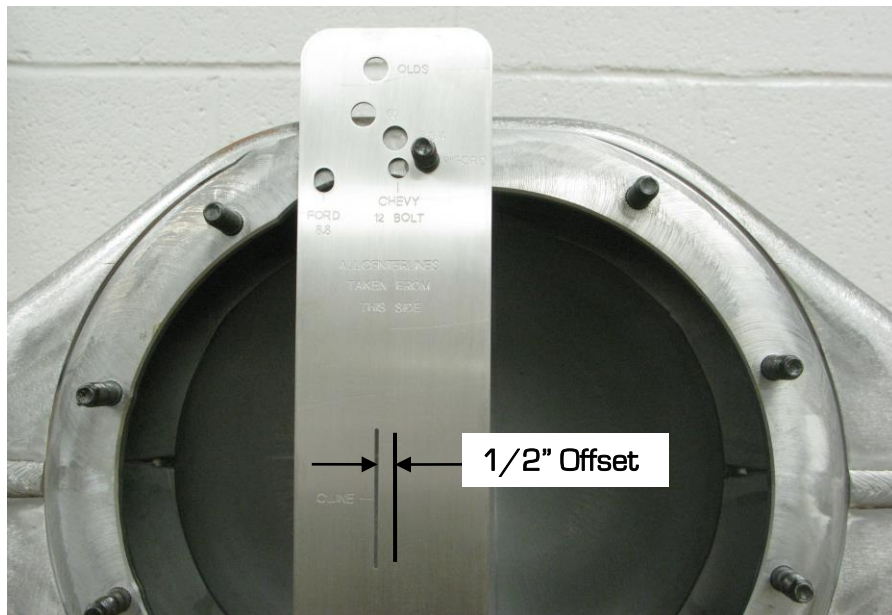

Figure 2 - 1/2" Pinion Offset
2. The centerline on the tool is where your pinion centerline will be located. When installing the DSE QUADRALink, DSE recommends using at least a 1/2" pinion offset to reference the dimensions where the axle brackets need to be located (Figure 2).